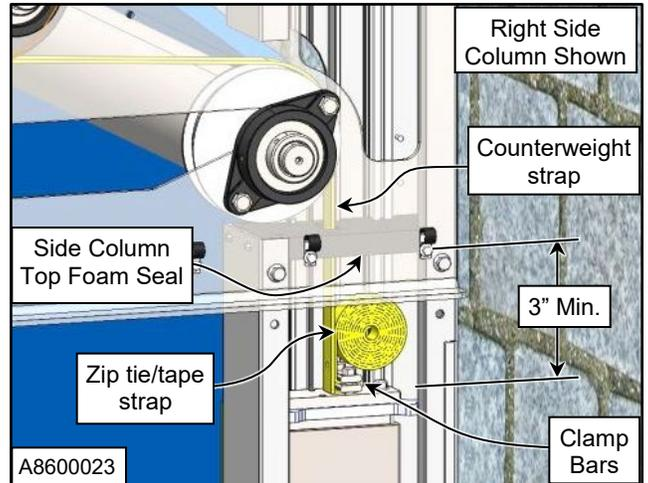

Figure 50
6. Remove the tape wrapped around the loose end of the strap. (See Figure 50)